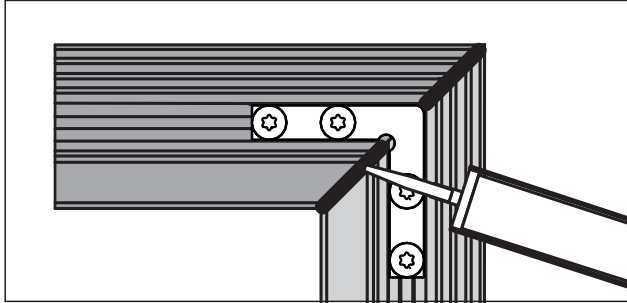

Fig. 28 Siliconize the impact areas from the inside
- When mounting in a soundproofing unit, siliconize all impact areas from the inside (Fig. 28).